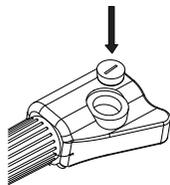

fig.2
- Put CR2032 battery into battery house, positive side of battery(+) should face out (fig.2).